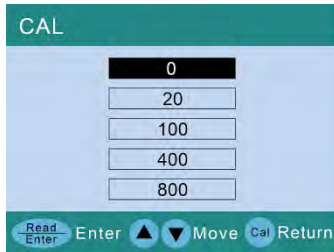

Figure 8.1
- e) Press **CAL** to enter the calibration menu, the cursor is at 0 NTU (see Figure 8.1).
- Press  or  to select the calibration point, as shown in Figure 8.1.